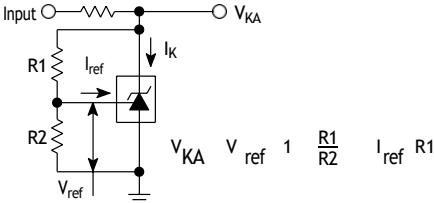

Figure 2. Test Circuit for  $V_{KA} > V_{ref}$
(refer to Figure 2) the total dynamic impedance of the circuit is defined as:  $|Z_{KA}| = |Z_{KA}| \parallel \frac{R_1}{R_2}$
6. The dynamic impedance  $Z_{KA}$  is defined as  $|Z_{KA}| = \frac{V_{KA}}{I_K}$ . When the device is programmed with two external resistors,  $R_1$  and  $R_2$ , (refer to Figure 2) the total dynamic impedance of the circuit is defined as:  $|Z_{KA}| = |Z_{KA}| \cdot 1 + \frac{R_1}{R_2}$